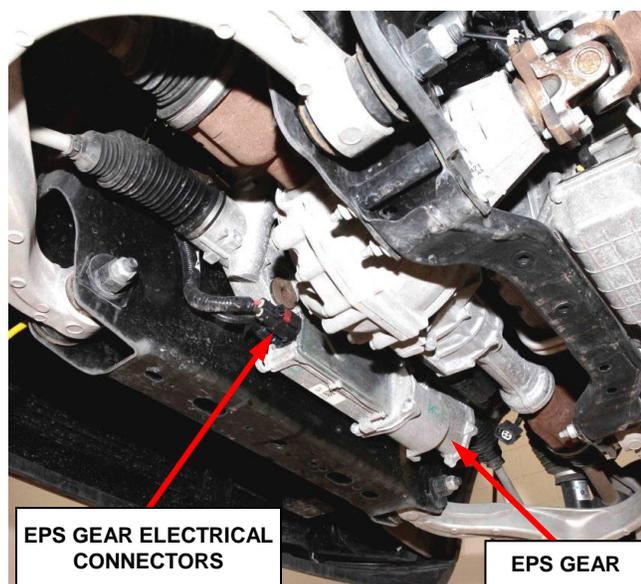

**Figure 5 – Outer Tie Rod End Nut
11. **For 4x2 vehicles**, loosen the left outer tie rod end jam nut (Figure 5).
12. Remove and **DISCARD** the right and left side outer tie rod nuts (Figure 5).
10. Install **NEW** tie rod end to knuckle nuts. Tighten the nuts to 30 N·m + 90° turn (22 ft. lbs. + 90° turn) (Figure 5).